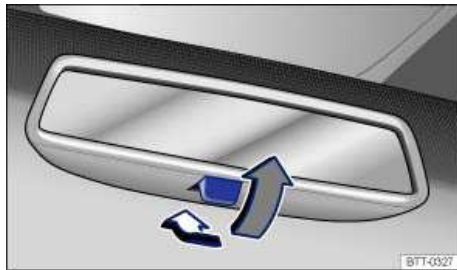

Fig. 78 Manually adjustable inside mirror.
- To adjust to non-glare visibility, move the lever so that it points backward ⇒ fig. 78.